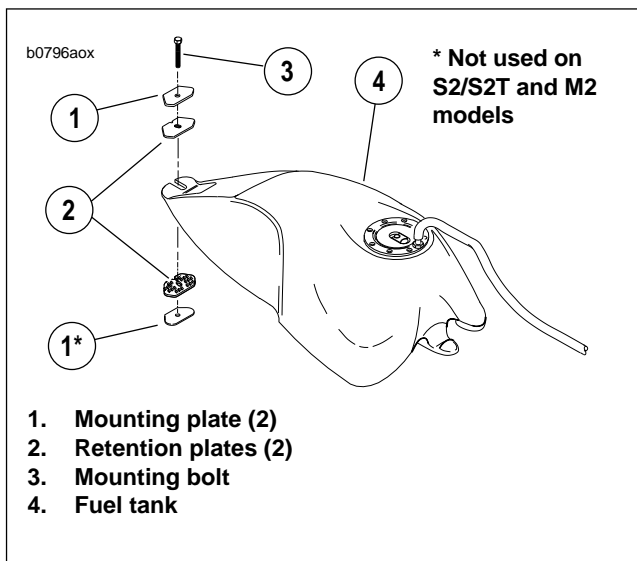

Figure 5. New Fuel Tank Mounting Arrangement
9. See Figure 5. Install **new** mounting bolt (4) and tighten to 18-23 ft-lbs. (24.4-31.2 Nm).